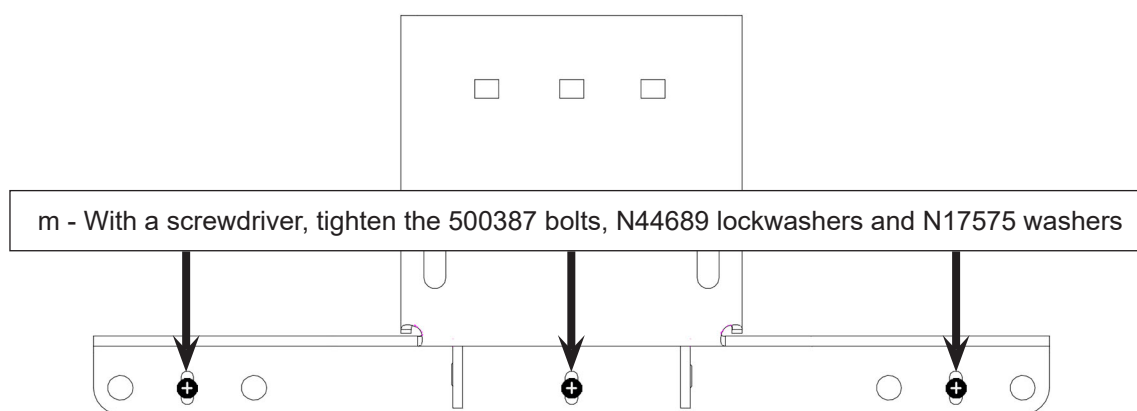

Figure 9 - Upper Support Bracket Top Affixed to L-bracket
- o. Fix the upper support bracket to the L-bracket with 500387 bolts, N44689 lock washer and N17575 washers. Tighten the screws with a screwdriver. See Figure 9.